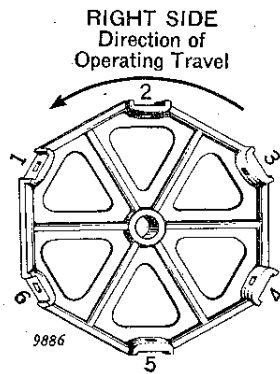

Figure 8
2. Bolt on beater bars, numbered 2 and 5, as shown in Figure 8. Place the lower beater in position (the keyseat nearer the end of shaft must be on the **right** side). Then put in the upper beater. Also note page 6.